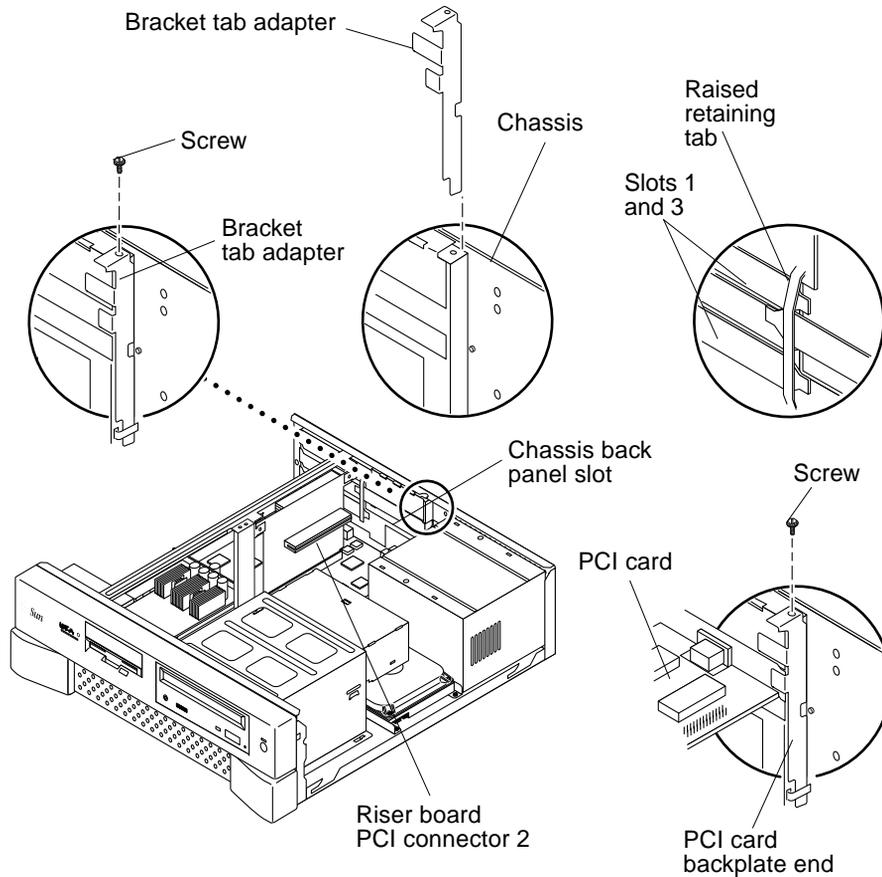

FIGURE 10-6 Removing and Replacing the PCI Card From PCI Slot 2 (Ultra 5)
7. Remove the PCI card from slot 2 as follows (FIGURE 10-6):
3. Replace the PCI card into PCI slot 2, proceed as follows (FIGURE 10-6):